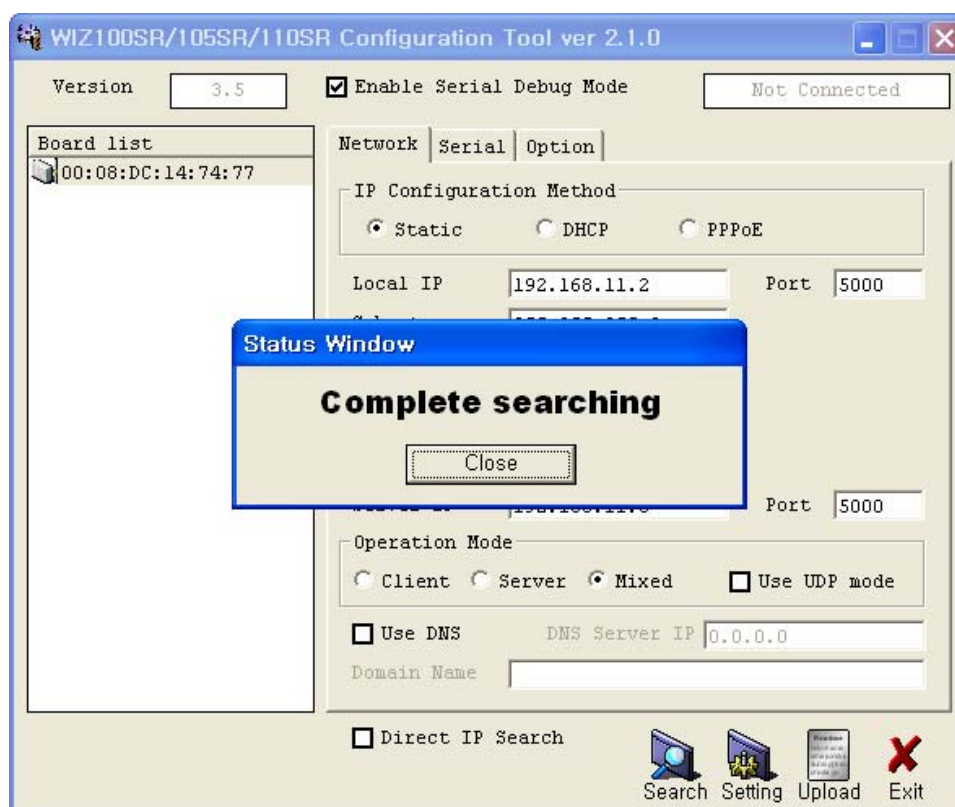

Figure 10. Board Search Window
3. As shown in Figure 10, select Option tab and check 'Enable' combo box of "Password" menu.
④Serial Configuration:
- ① Select a module shown in "Board list", and click "Upload" button.
- 👉 **Before uploading through Ethernet, you should set the network information of WIZ105SR first by Configuration Tool program as shown above Fig 10. By using Ping test, you can check if network is correctly configured.**
- ② When the window as shown below Figure is displayed, select file for upload and click "Open" button.